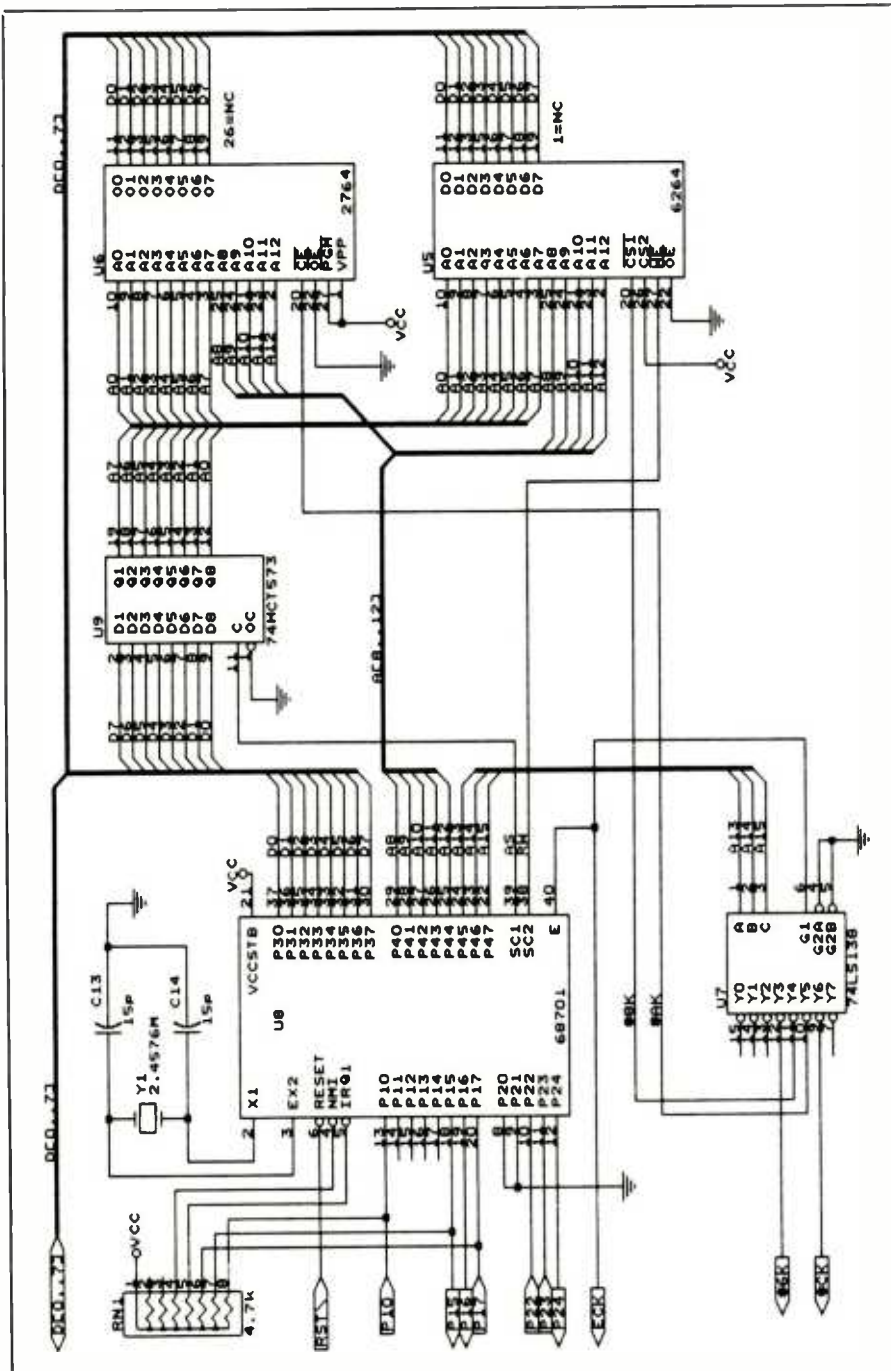

Fig. 2. Schematic diagram of the Processor and Memory sections.
Shown schematically in Fig. 3(C) is the circuitry for the Parallel Printer Port. Each data byte sent to the printer or, in this case, the Programmer, is signaled by DST strobing low, which sets the flip-flop made up of *U12C* and *U12D*. This sets the BUSY line and latches the new data byte into *U11*. The 68701 microcomputer chip in Fig. 2 monitors the BUSY line (*P17*). When it detects activity on this line, it reads the new data byte from *U11* in Fig. 3(C).